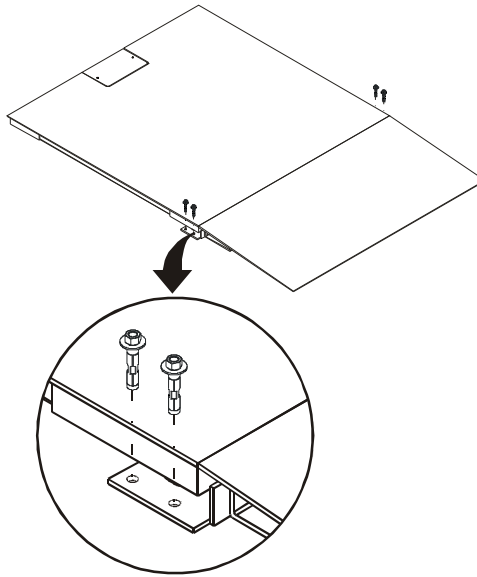

FIG. 28 INSTALLING ANCHORS FOR RAMP
- Step 2. Place the ramp in position, then lift and set the platform feet into the foot retainer plate holes. (See Fig. 28)